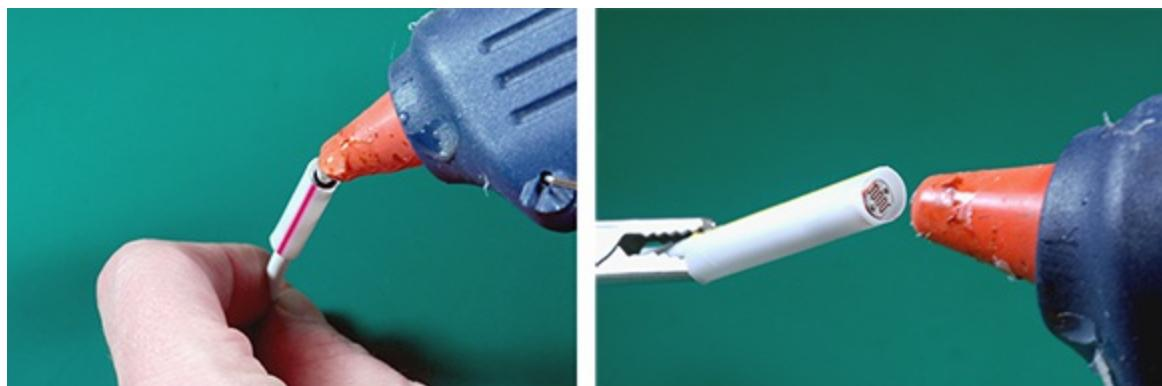

Figure 12-9: Sealing the tops of your temperature and light sensors.
10. Slip your sensors into the straws so that the sensor is near the end of the straw. Apply a bit of hot glue to the end of each sensor, as shown in Figure 12-9.